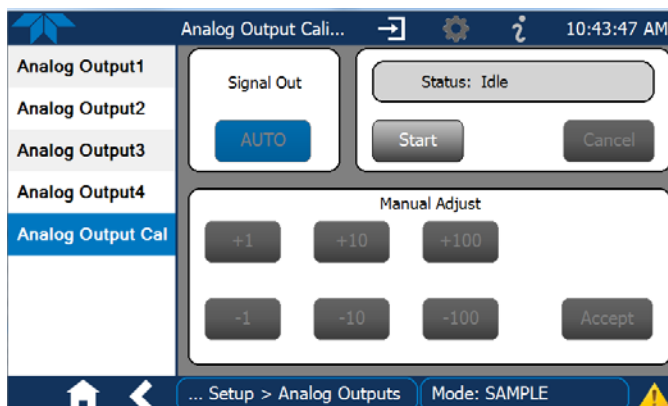

Figure 2-50. Analog Outputs Group Calibration Screen
- AUTO for group calibration (Figure 2-50) of the analog outputs (cannot be selected when Current is selected for the Range)